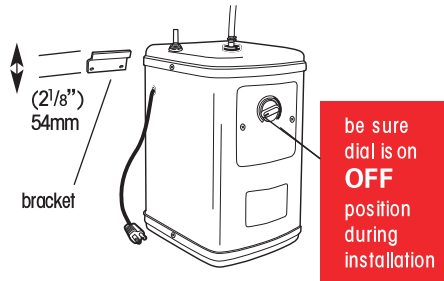

Figure 2
- 2: Hang tank on bracket ,as shown in Figure 2.(optional)